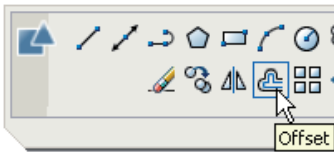

Fig. 5.12 The **Offset** tool from the **2D Draw** control panel
2. Call the **Offset** tool – either *left-click* its tool icon in the **2D Draw control panel** (Fig. 5.12), or *pick* the tool name in the **Modify** drop-down menu, or *enter o* or *offset* at the command line. The command line shows: